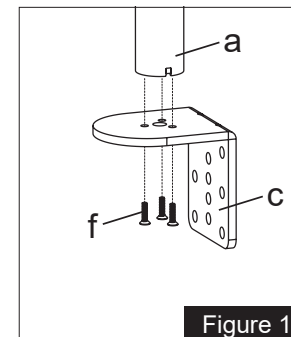

Figure 1
1. Install the "C" Clamp Brace **(c)** to the Pole **(a)** using 3pcs M5x14 Bolts **(f)**, and tighten using the Allen Key **(o)**, see Figure 1.